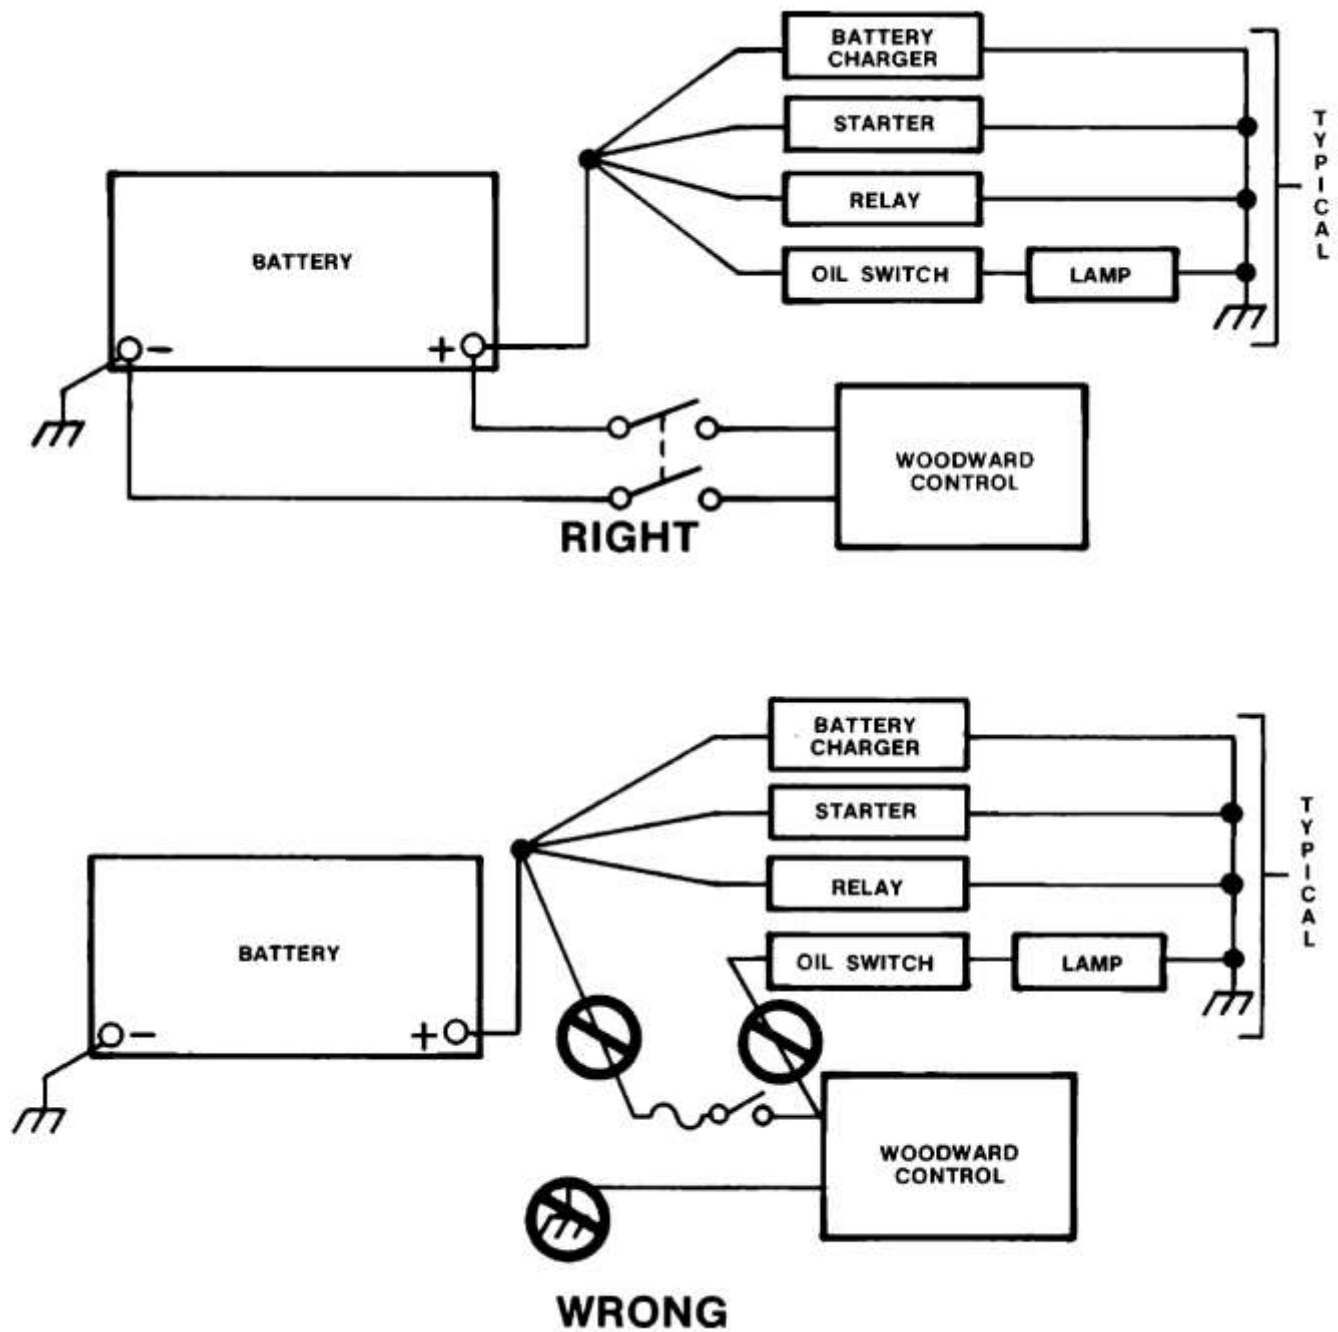

Figure 2-9. Correct and Incorrect Wiring to Battery
The battery connection to speed control terminals 1 and 2 must be directly from the terminals, not through distribution points. See Figure 2-9.
Connect power wires directly to the battery terminals. The speed control can be damaged if those wires are connected to distribution points. See Figure 2-9.
4. If the fuse or breaker opens after the prime mover has been running, the speed control may have been damaged. Turn governor power off and remove all wires from terminals 1, 2, 3, and 4. Measure the resistance from terminal 1 to 2 and from 3 to 4, if either is less than 100 ohms the speed control must be replaced. If the control is not damaged, then high voltage spikes from the battery or battery charger may be the problem. Verify that the battery connections are correct. Provide separate wires from the speed control to the battery terminals as shown in the top of Figure 2-9.